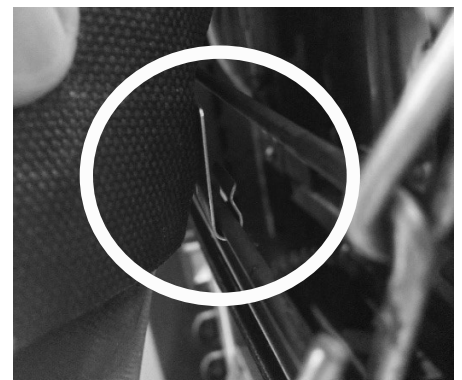

Figure 18. Reinstall Hook Belt Wraps
2. Connect the Belt Wrap hooks to the Conveyor Belt Chain, ensuring all hooks snap into place. (Figure 18)
4. Remove both Belt wraps - lift the flap on the Belt Wrap (Figure 18). Disconnect the Belt Wrap hooks from the Conveyor Chain and remove the Belt Wraps from the toaster (Figure 23).